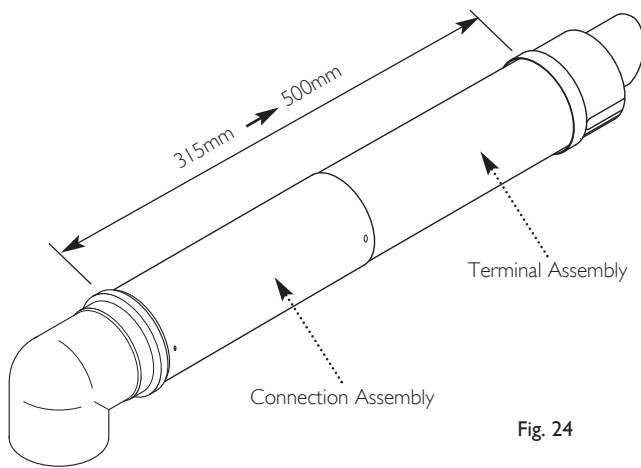

Fig. 24
2. The two sections can be adjusted to provide a length between 315mm and 500mm (Fig. 24) when measured from the flue elbow (there is 50mm engagement into the elbow).